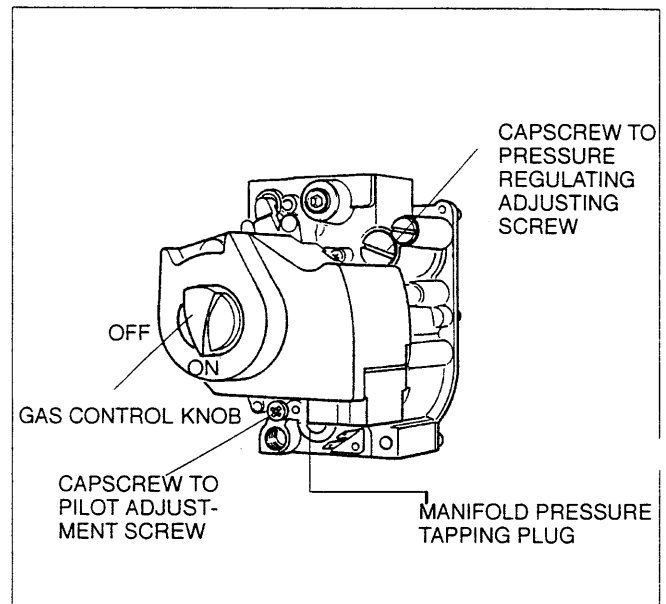
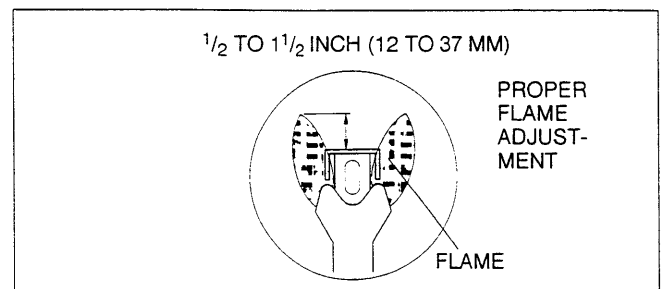

Fig.9
Fig.10
43. After adjustment, install the capscrew on the gas control, fig.9.
44. Observe the pilot flame through hole in the burner assembly plate. The flame should envelop the flame sensor $\frac{1}{2}$ – $1\frac{1}{2}$ inch, fig. 10. If the pilot flame is satisfactory then go to step 45. If the pilot flame is too small or too large, adjust the pilot using the pilot adjustment screw., fig. 9. Turn the inner adjustment screw clockwise  to decrease, or counterclockwise  to increase the pilot flame. After adjustment, replace the cover screw and tighten firmly.
46. The ignition safety shut-off means must be tested. Test the safety shut-off by shutting off the main gas piping shut-off valve. The main burner and the pilot flame will extinguish. Within six (6) seconds the gas control main gas solenoid should close and make an audible sound. After 90 seconds, the module should go into lock out mode and spark should stop. Disconnect the electric power to the appliance. Open the main gas shut-off valve. Turn on the electric power to the unit. A normal operating sequence should occur. If the gas control functions satisfactorily then go to step 47. If the gas control does not function satisfactorily, immediately turn the gas control knob clockwise  to "OFF". Shut off the main gas piping shut-off valve. Disconnect all electrical power to the appliance and call your service technician or gas supplier.